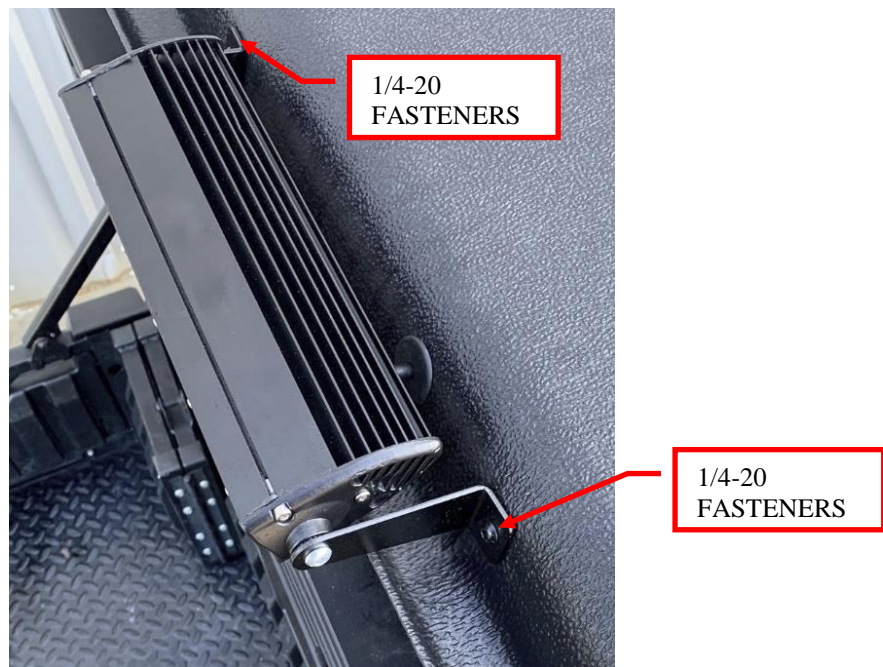
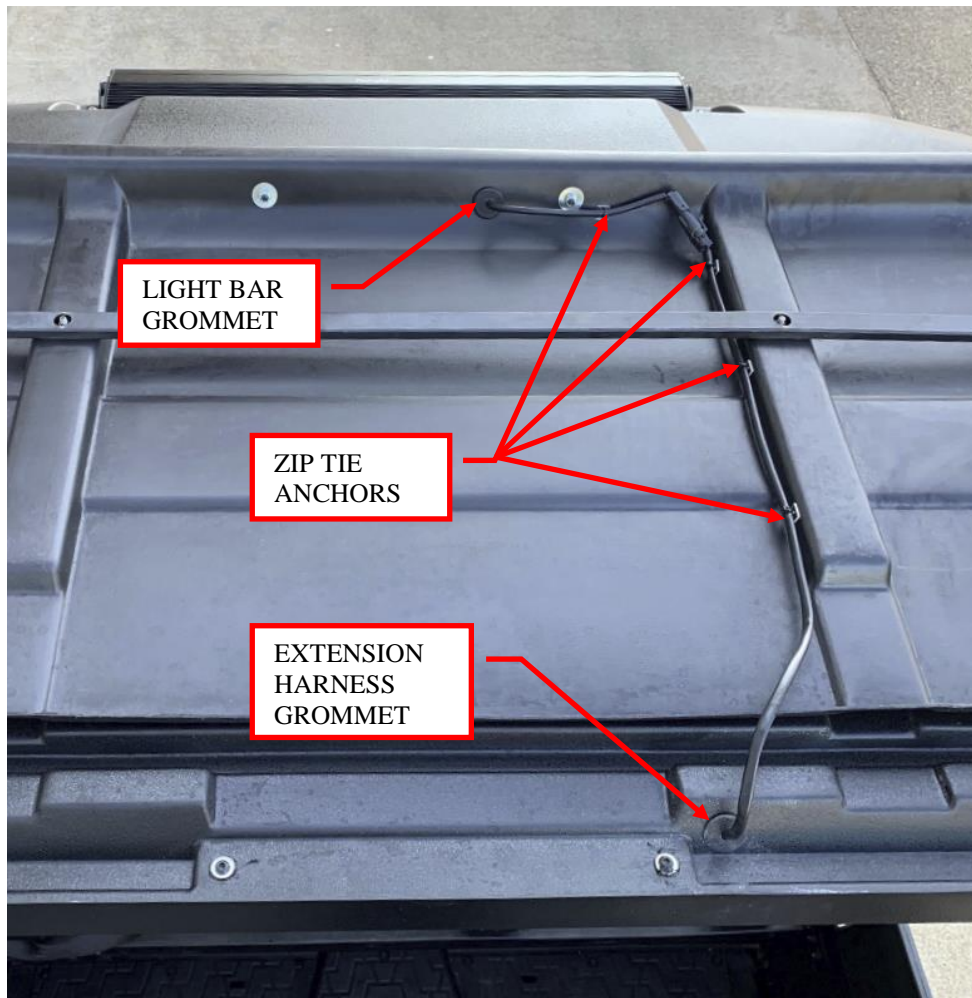

Figure 13: Bolt the light bar to the rear factory roof.
Figure 14: Run the extension harness.
14. Bolt the light bar to the rear of the factory roof using the supplied 1/4-20 button head bolts, nylock nuts, and fender washers. See Figure 13 and Figure 14.
15. Connect the light bar extension harness to the mating plug on the Audio Shade roof. Push the grommet on the harness into the mating hole on the roof. With roof fully open, secure the extension harness to the underside contours of the roof with the supplied zip ties and zip tie stick-on anchors. Be sure to clean the roof with the supplied alcohol wipes prior to attaching the anchors. See Figure 14.